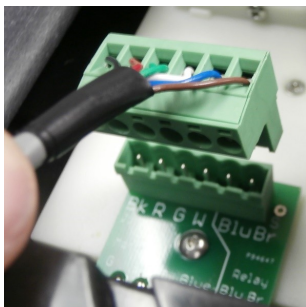
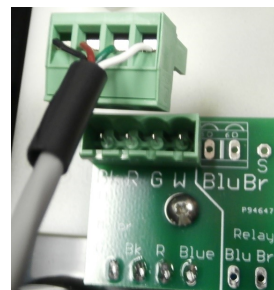

Figure 1.13
Figure 1.14
7. Follow the wire sequence in **figure 1.13** or **figure 1.14** for each EHU. *Be careful to ensure that there are no bare wires protruding out from the terminal clamps, to avoid potential shorts.* Also make sure you are clamping down on bare wire, and not the insulation of the wire. The wiring sequence for each EHU is also imprinted on the PCB that the terminal header is mounted on (located inside the EHU), as shown in **figure 1.12**. Pay no attention to the second row of imprinted text, these pins are for use in the manufacturing of the board itself and are of no use to you. **Figure 1.12** shows a blue line crossing out the text in question. The orange circle shows the correct wiring sequence.